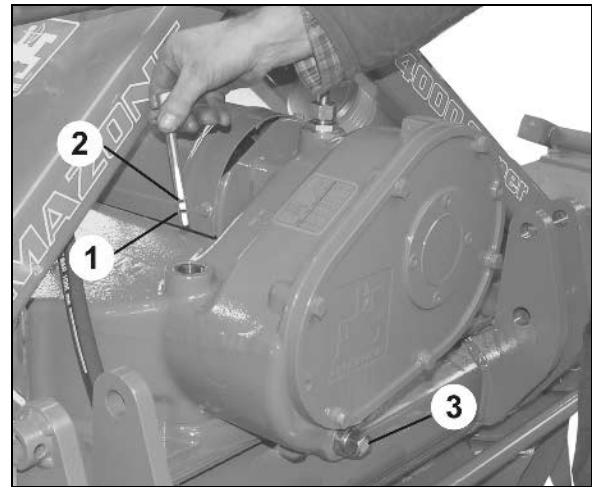

Fig. 53
- between the marks (Fig. 53/1, 2).
- on machines with an oil collar: on the upper mark (Fig. 53/2) befinden.
Before opening the oil drainage screw place an appropriate oil collecting container underneath the gearbox (Fig. 53/3).
The gearbox has an oil dipstick (Fig. 53/1) with ventilation. Ventilation must always be provided, otherwise, the gearbox may become leaky.